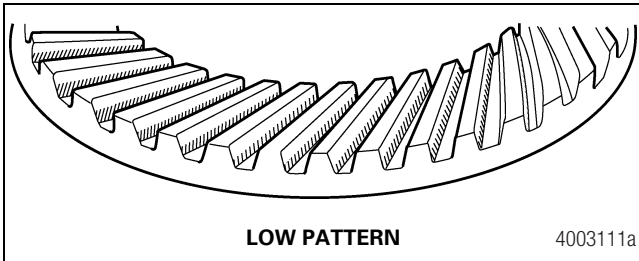

Figure 4.30
- **If the contact is too low on the gear:** The pinion was installed too deeply into the carrier. Decrease the inner pinion shim to move the pinion away from the gear. Figure 4.30.